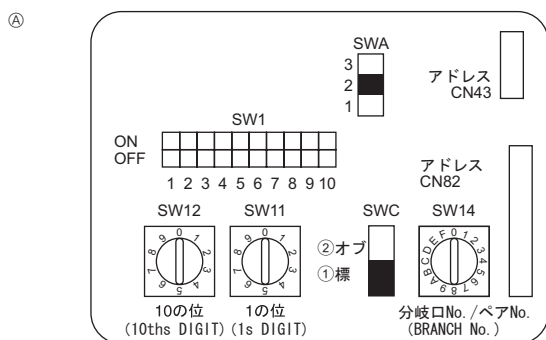

Fig. 6-4
6.5. Setting addresses (Fig. 6-4)
④ Address board
6.6. Sensing room temperature with the built-in sensor in a remote controller (Fig 6-4.)